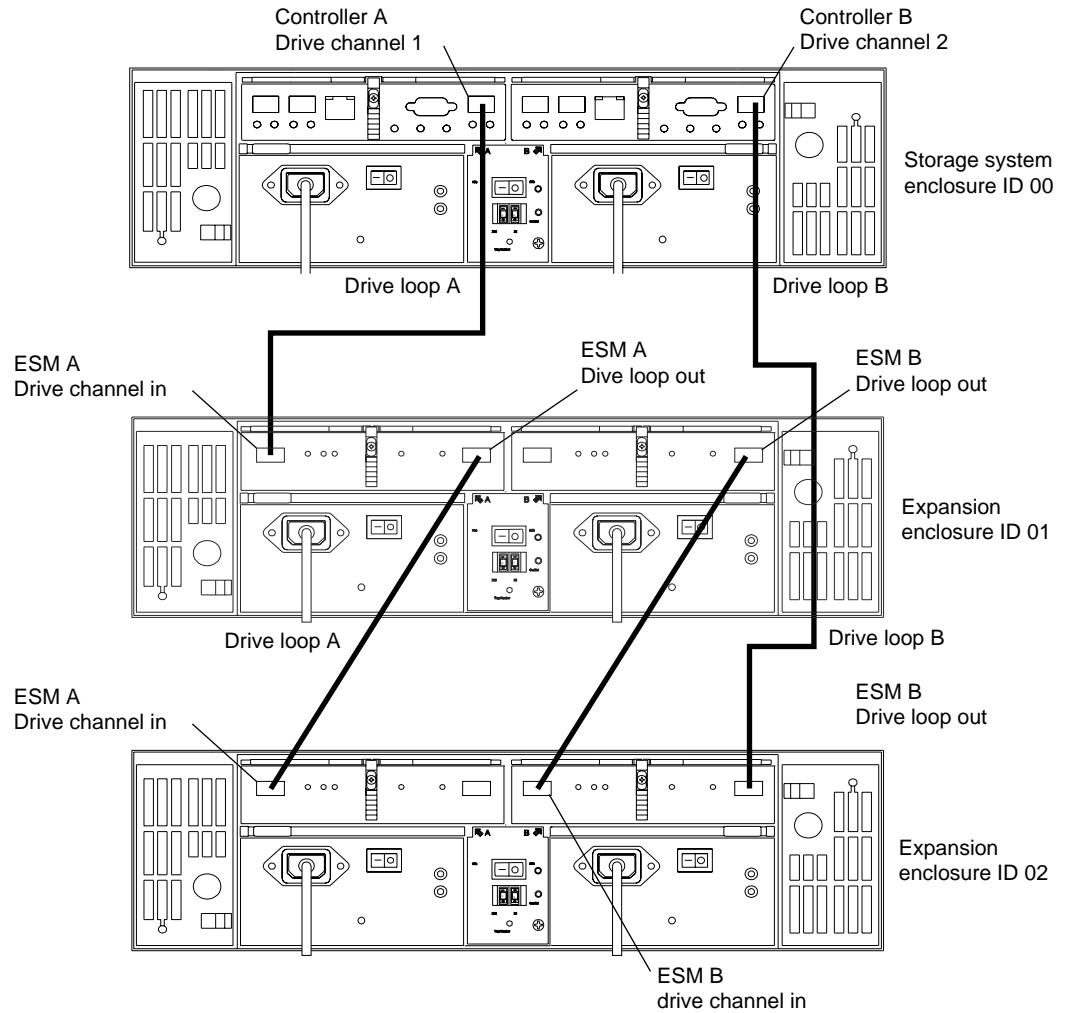

Figure 5-2 Drive Loop Cabling for Systems with Three or More Enclosures
3. Connect additional drive enclosures to drive loops A and B by connecting the **drive channel out** connectors on the new enclosure to the **drive channel in** connectors of the expansion enclosure directly beneath it (see Figure 5-2). Then connect the **drive loop out** cable from the left side RAID controller to the left-side **drive channel in** connector on the new expansion enclosure. The **drive channel out** connector on the first expansion enclosure should remain connected to the right-side RAID controller drive loop connector.